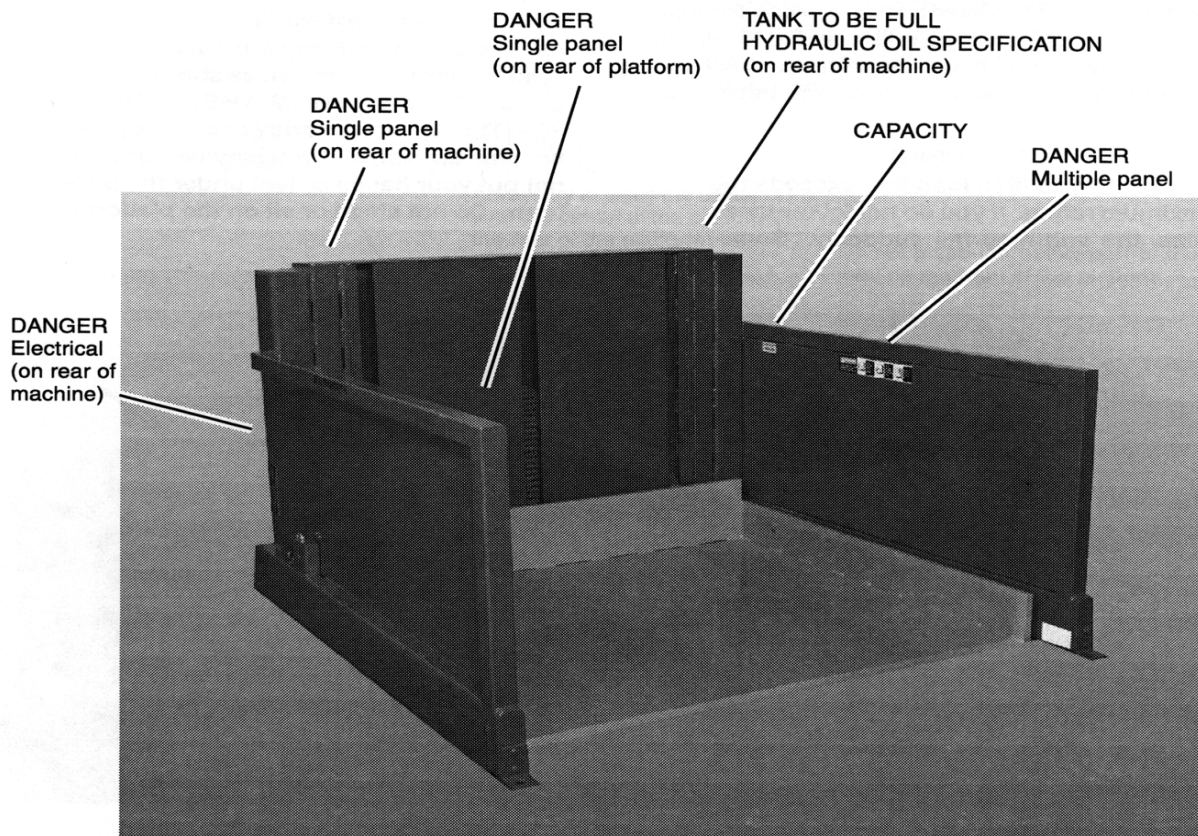

Fig. 1 Safety Labels
- Fig. 1 Safety Labels7
5. Figure 1 shows the safety labels on this unit. Check to be sure all of the labels are in place.